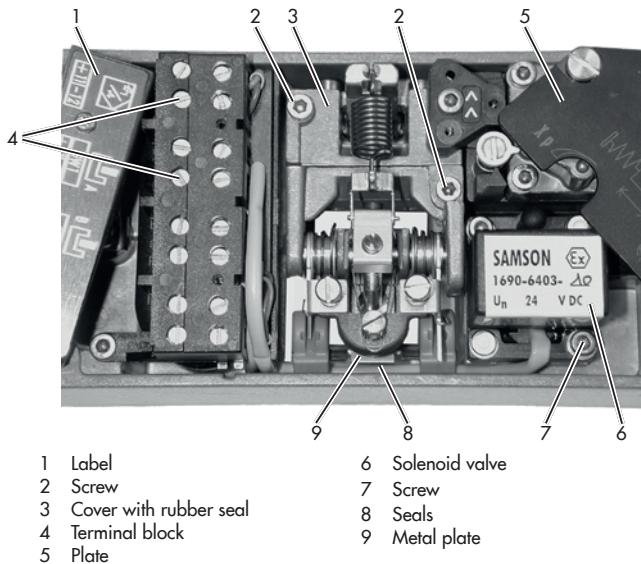

Fig. 9-2: *Installing the limit switches and solenoid valve*
- See Fig. 9-2
1. Unscrew the bracket with plate (1).
2. Remove the screws (2) and replace the entire set point calibrator (3) with a calibrator including limit switches. Make sure the O-ring is inserted into the housing.
1. Push the plate (5) to one side.
2. Unscrew the four screws (7). Lift off the black cover with the rubber gasket and insert the solenoid valve (6). The rubber gasket with the restriction is located in the rear of the solenoid valve.
3. Unscrew the plate (1).
4. Attach the terminal block (10) for the solenoid valve in the terminal base.
5. Insert the panel (9) at the rear of the positioner and attach it to the set point calibrator using two screws.
7. Screw on the bracket with plate (1).
1. Unscrew bracket with plate (1). Remove the connecting cable of the solenoid valve from terminals 81/82.
2. Unscrew the two screws (7) that are not sealed with paint and remove the solenoid valve with its connecting cable.
4. Screw on the bracket with plate (1).